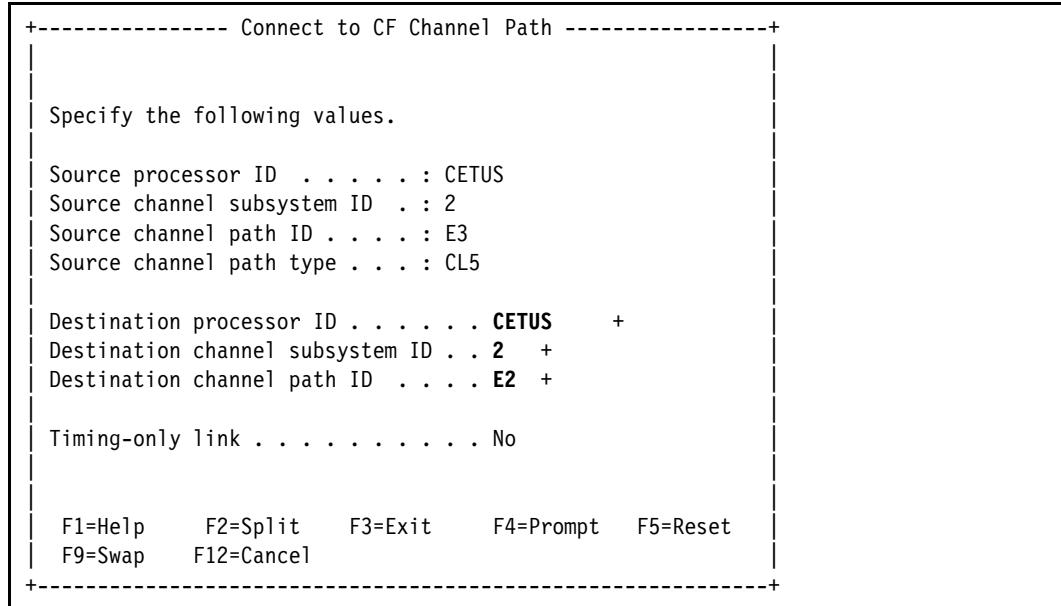

Figure 14-20 Processors: Connect to CF Channel Path, CL5
8. HCD prompts you to specify which CF channel path to connect to. Make the following updates (Figure 14-20) and press **Enter**: